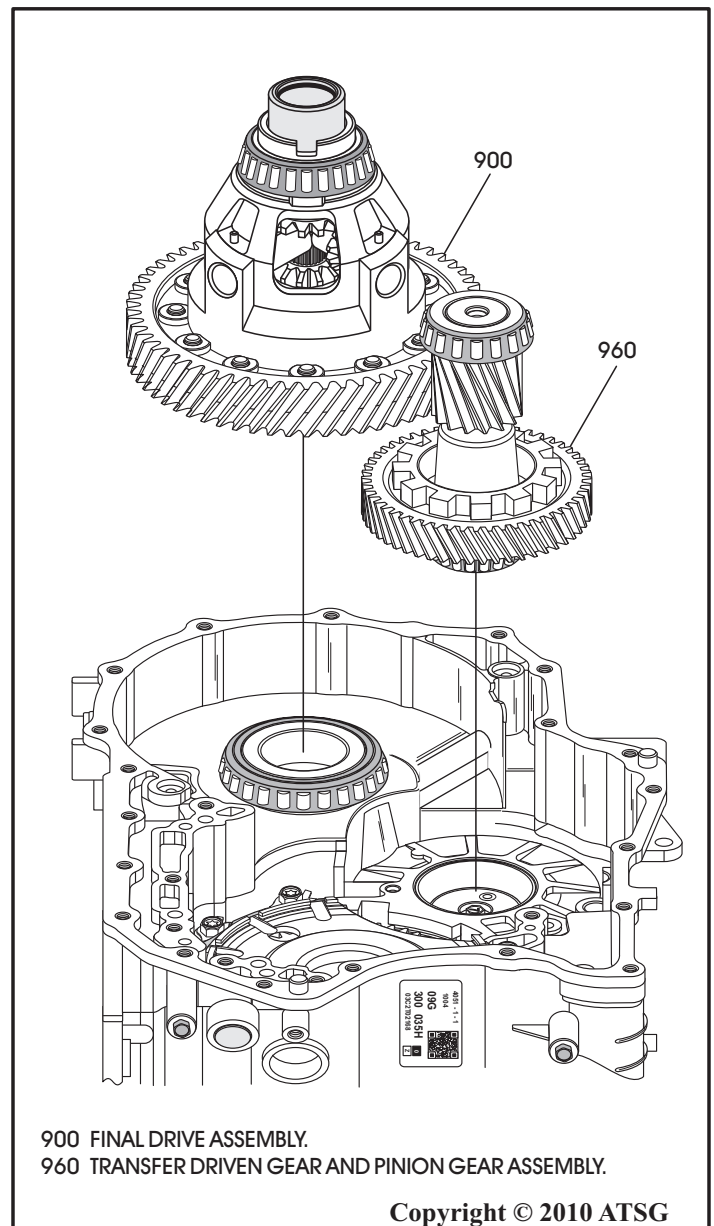

Figure 173
13. Install the completed final drive assembly, as shown in Figure 173.
14. Install the completed transfer gear/pinion gear assembly, as shown in Figure 173.